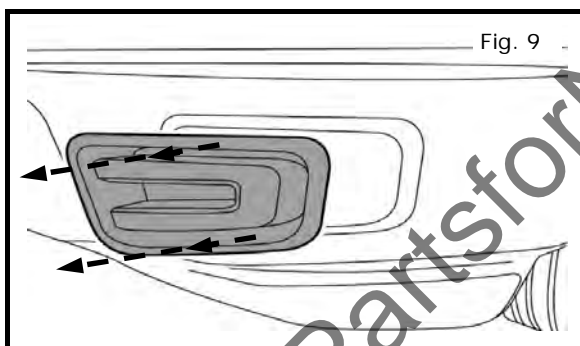

Fig. 9
- a) Remove fascia finisher from fascia as shown in Fig. 9.